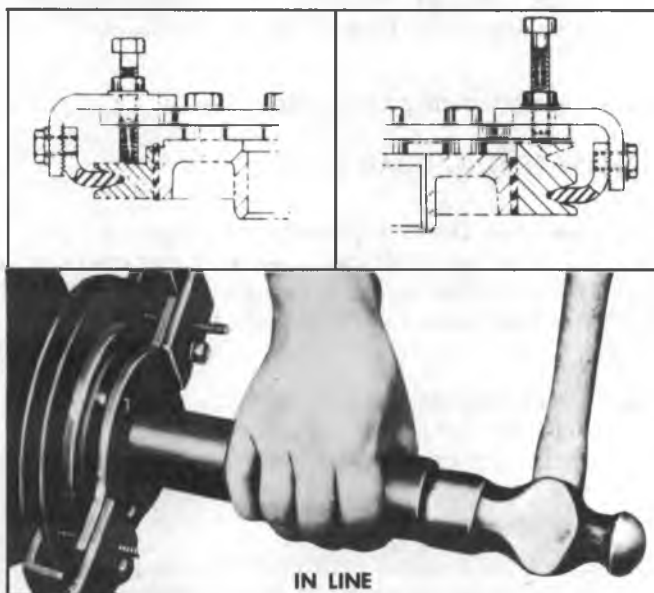

Fig. 11—Installing Torsional Damper (Drive on Type)
- b. Attach damper Installer Tool J-22197 to damper. Tighten fingers of tool to prevent weight from moving (fig. 11).
- c. Position damper on crankshaft and drive into position using J-5590 until it bottoms against crankshaft gear or sprocket (fig. 11). Remove installer tool.